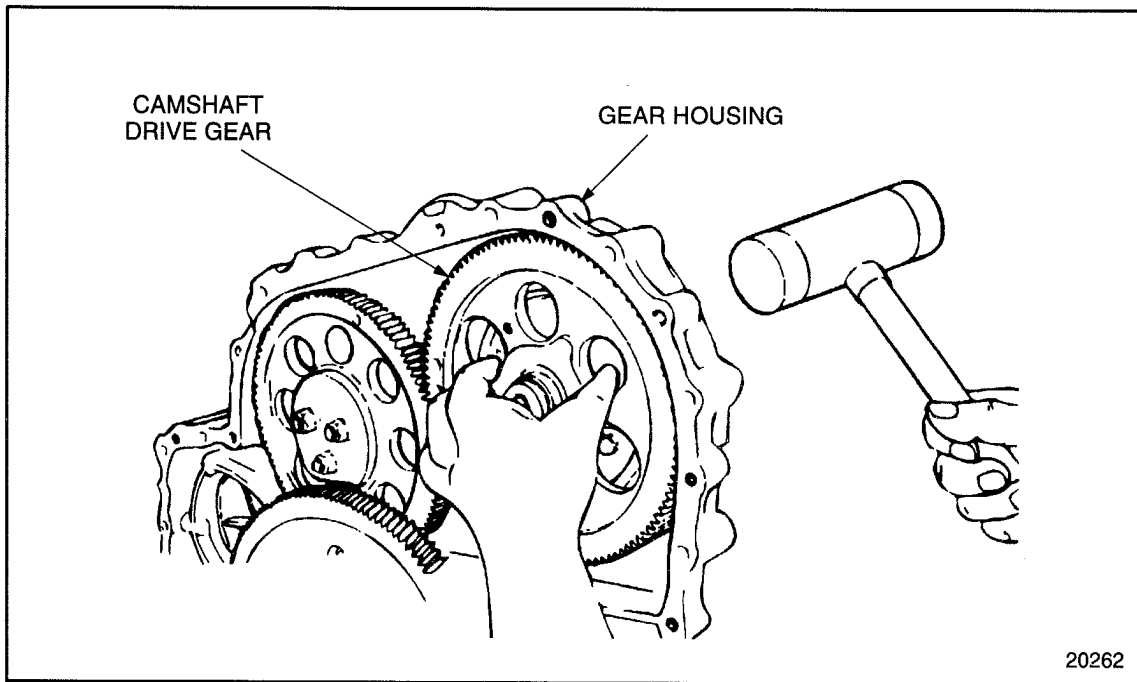

FIGURE 1-299 Removing Camshaft Thrust Plate Assembly
6. Using a fiber mallet or plastic hammer, tap the rear face of the camshaft thrust plate forward until it is free of the gear case. See Figure 1-299.